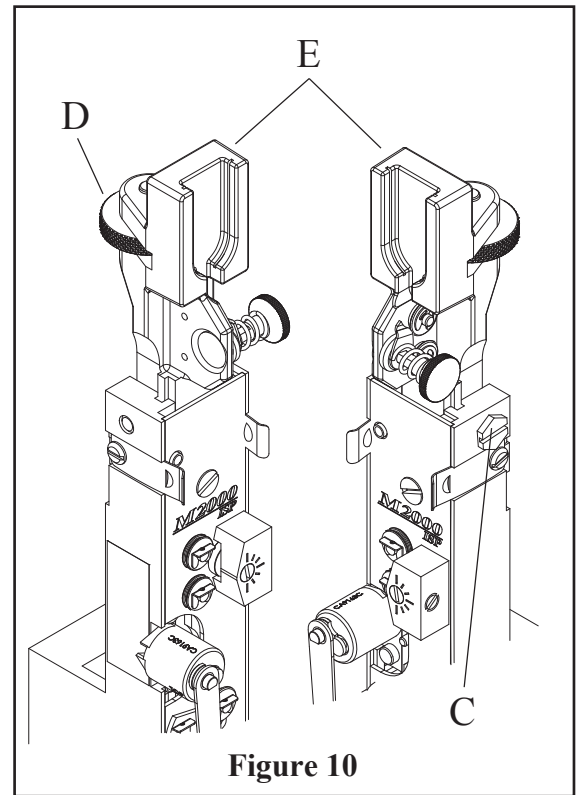

Figure 10
**Equalizing Both Legs of Stitch (Figure 10)**